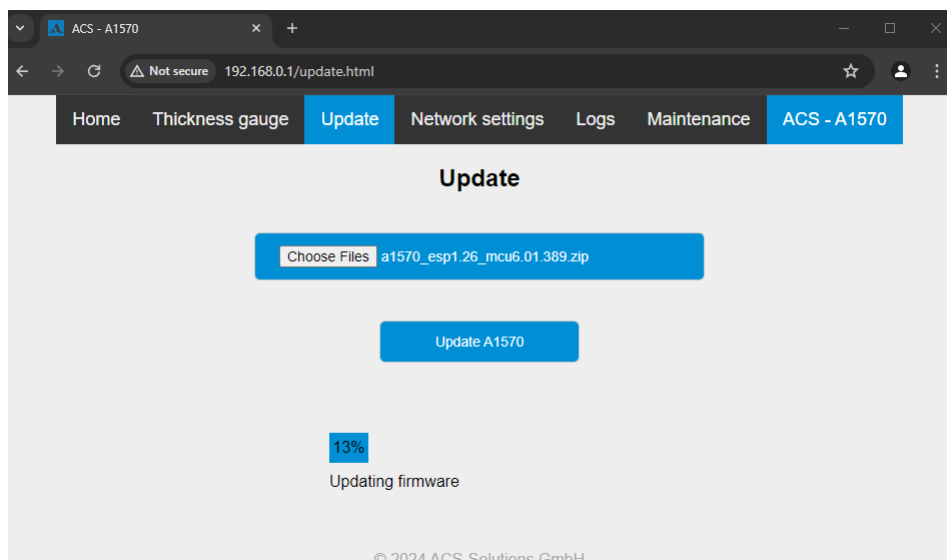

Figure 15: Updating progress
- The device will download the selected file and update its firmware. A progress bar will appear, displaying the progress of the update (see Figure 15²⁴).